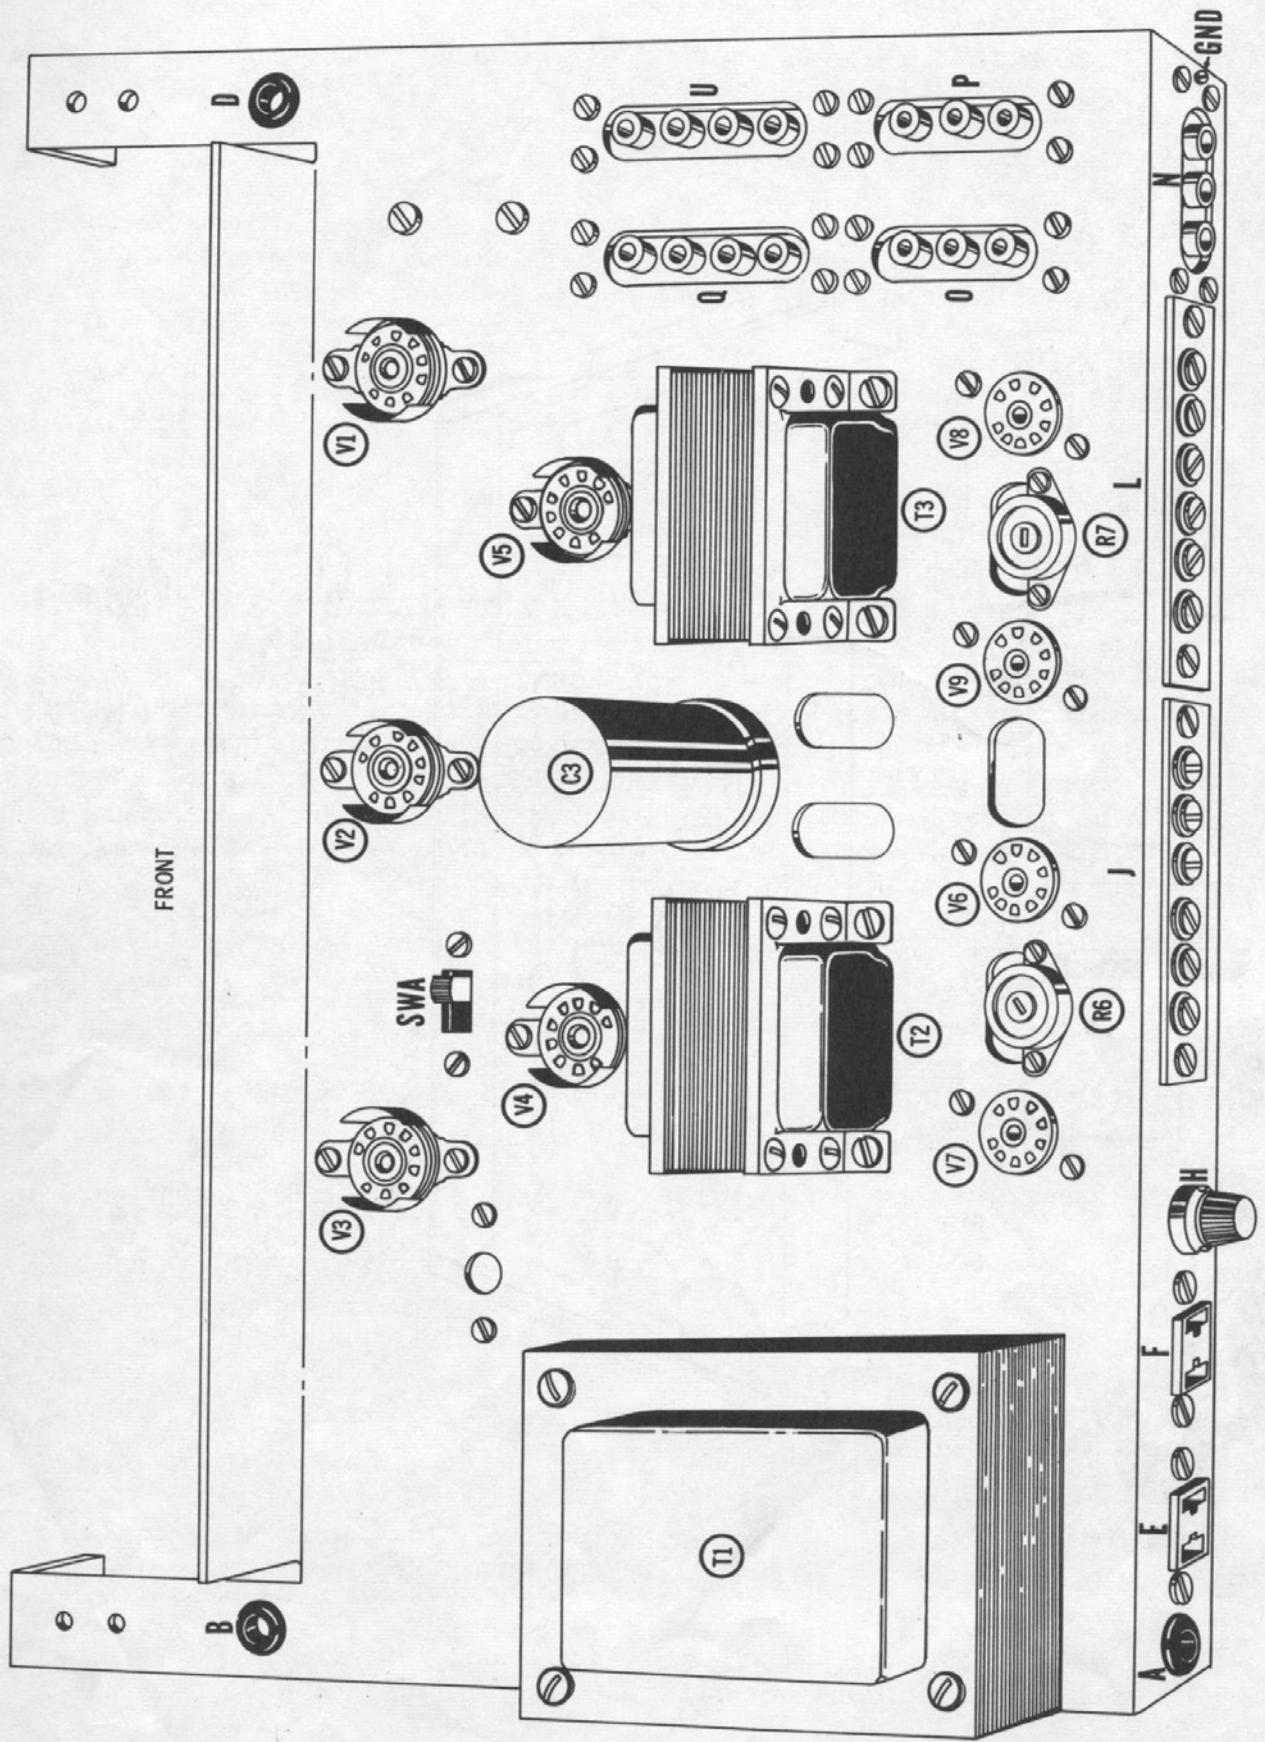

Fig. 9.
- () 27. Power transformer T1 (see Fig. 9) has been temporarily mounted on the chassis for shipping purposes. Remove the two nuts holding the transformer to the chassis, and remove the transformer. Then refer to Figs. 8, 9, and 10, and insert a 1/4" rubber grommet (P29-130) into each of the four oversized transformer mounting holes on the chassis.